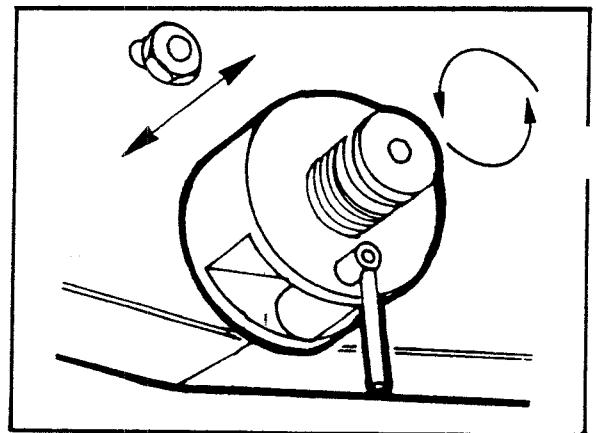

FIGURE 27
- 2) TAPE WEB ALIGNMENT - Refer to Figure 27.